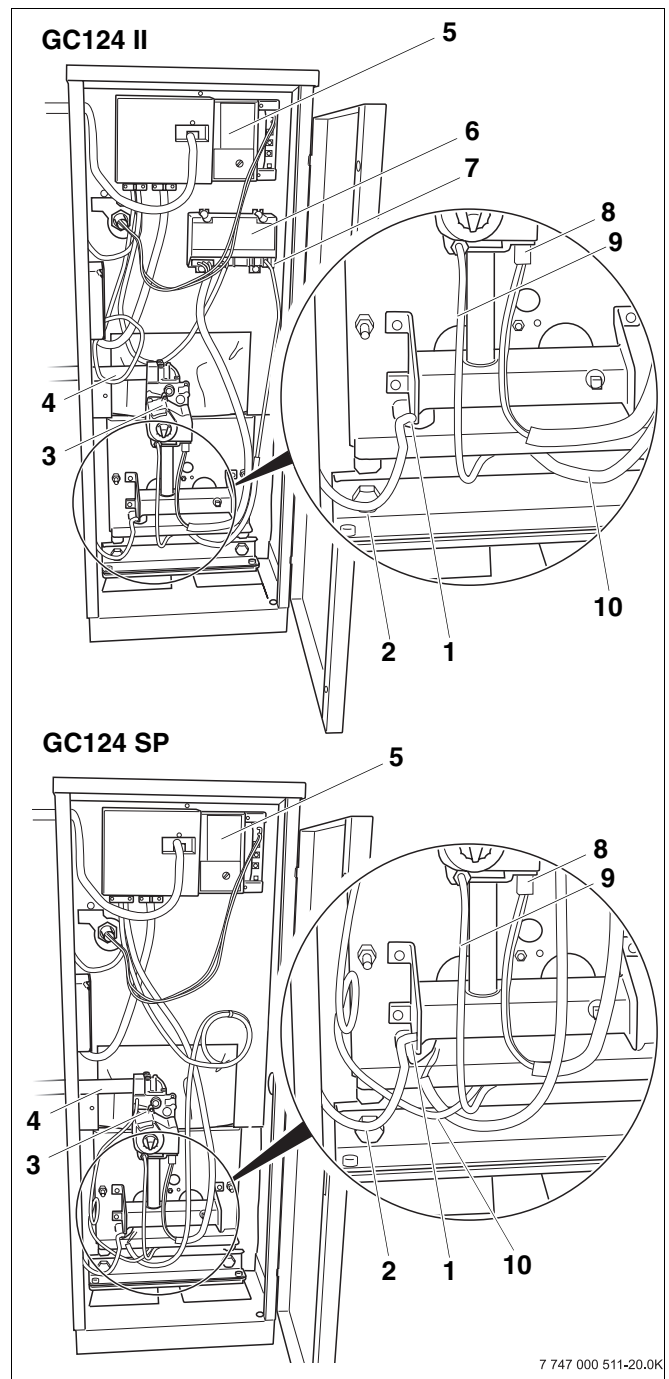

Fig. 45 Front view (GC124 II top, GC124 SP bottom)
- 16. GC124 II only: Remove igniter cable from ignition module (→ Fig. 45).
- 17. Disconnect cable connector from bottom of gas valve (→ Fig. 45).
- 18. Label cables to the flame roll-out switch, then remove cable. (→ Fig. 45).